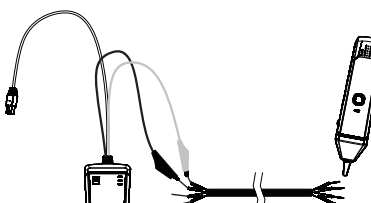

Figure 3. Tracing pairs
7.Tracing pairs (see Figure 3)